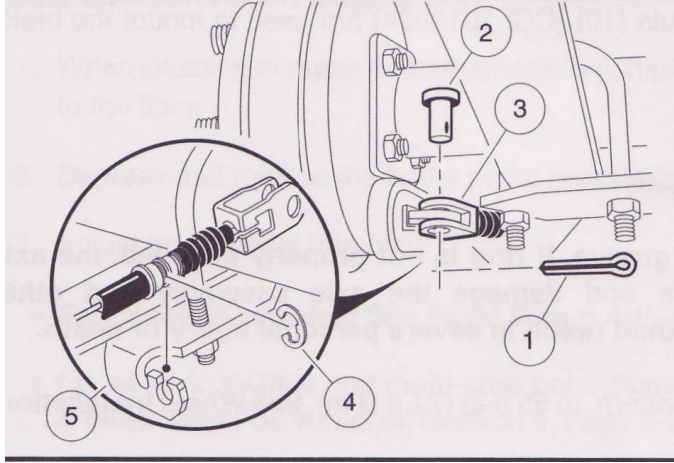

Figure 6-19
6. Remove cotter pin (1) and the clevis pin (2) from the brake lever on each wheel and pull the clevis (3) away from the lever (Figure 6-19).
7. Remove E-clip (4) from cable at the cable support bracket (5). Remove cable from bracket.
2. At the rear wheel brake, connect the cable to the brake actuator arm using new clevis pin (2) and new cotter pin (1) (Figure 6-19).
3. Place the cable in the cable support bracket (5) and secure with new E-clip (3).